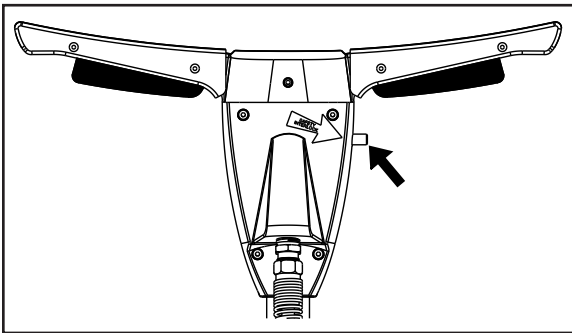
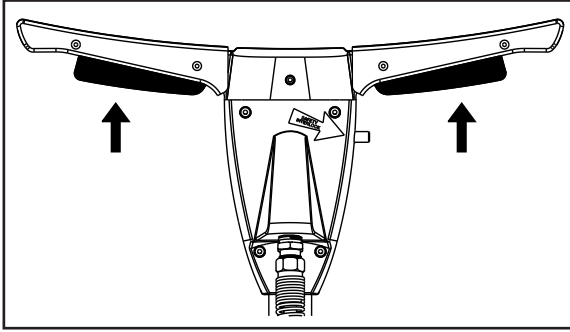

Figure 10
Figure 10A
The switch to start and stop the machine is activated by the interlock switch (Fig. 10) and the levers (Fig 10A) under the handle grips.
3. Push the interlock switch (Fig. 10), and apply pressure to the levers (Fig. 10A).